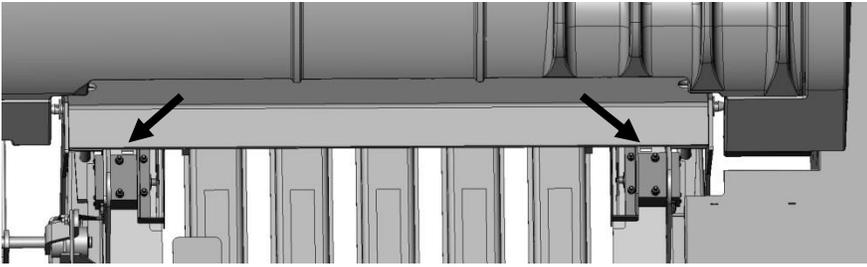

Figure 1
2. Directly behind the knotters, locate the four predrilled holes per side shown at the arrows. This location is also beneath the lift points on top of the baler (Figure 1).